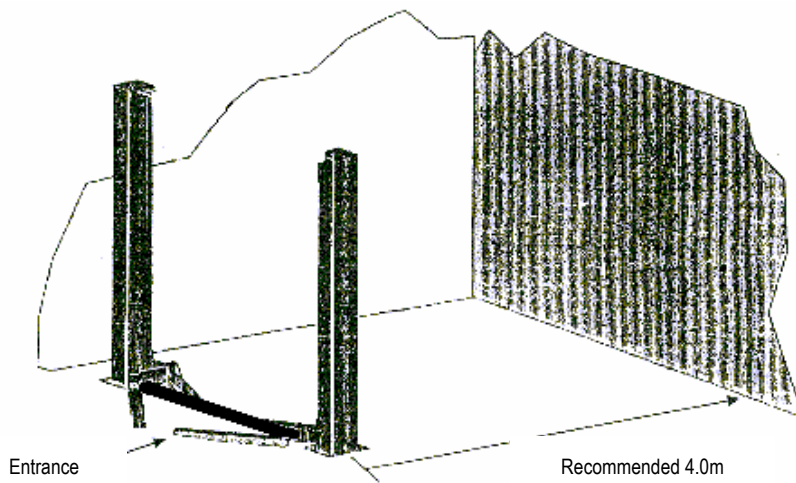

Fig 6
- The front and back of the lift should be reserved with sufficient space to accommodate all the vehicles (Fig. 6).(evaluating from the center